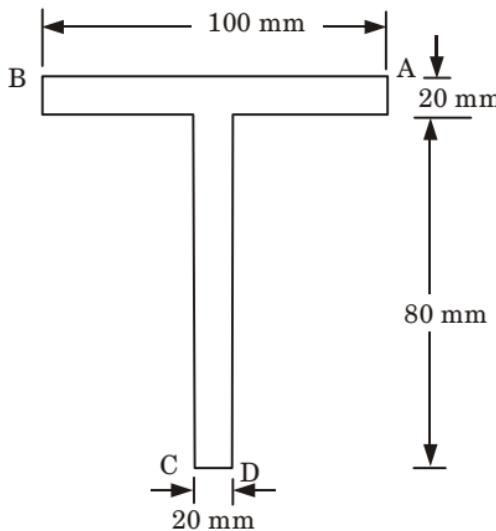

Fig. 24.
- b. A cast iron beam of T-section as shown in Fig. 24. The beam is simply supported on a span of 8 m, the beam carries a UDL of 1.5 kN/m length on the entire span. Determine the maximum tensile and compressive stresses.
**Given :** A cost iron beam of *T*-section as shown in Fig. 24. Span,  $L = 8 \text{ m}$ , Intensity of *UDL* = 1.5 kN/m